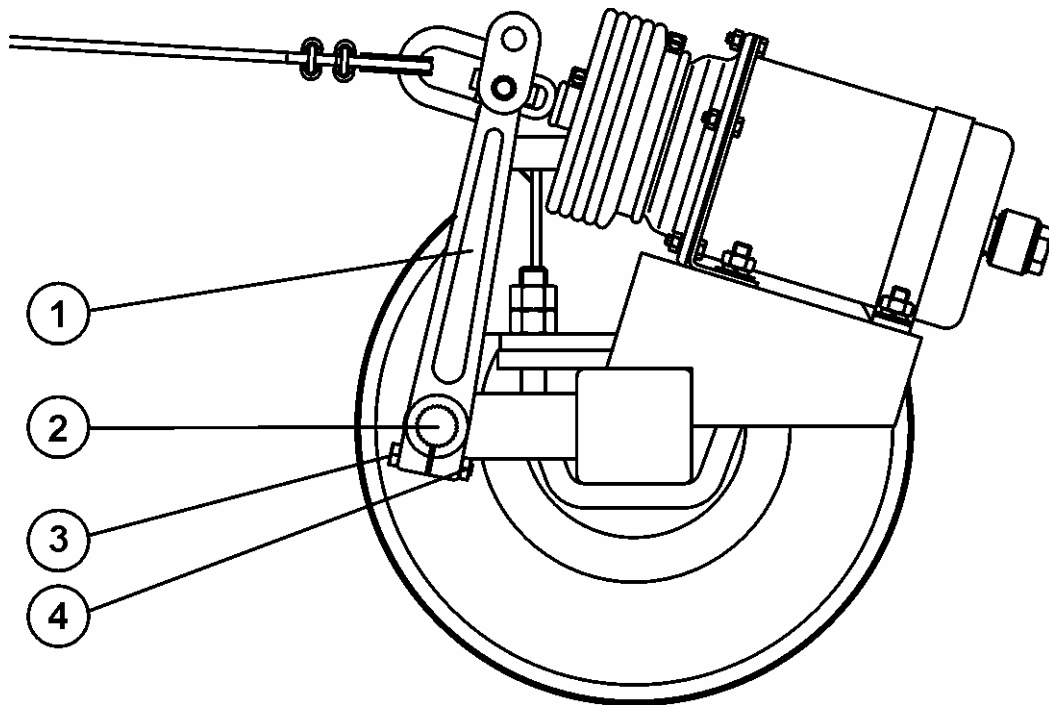

Fig. 11 Brake adjustment elements
Adjustment of brakes consists in adjustment of position of the brake cam arm (1) (Fig. 11) in relation to the cam shaft (2). For this purpose loose the nut (4) and change position of the arm on the multi-groove end of the shaft (2) towards proper direction i.e.: